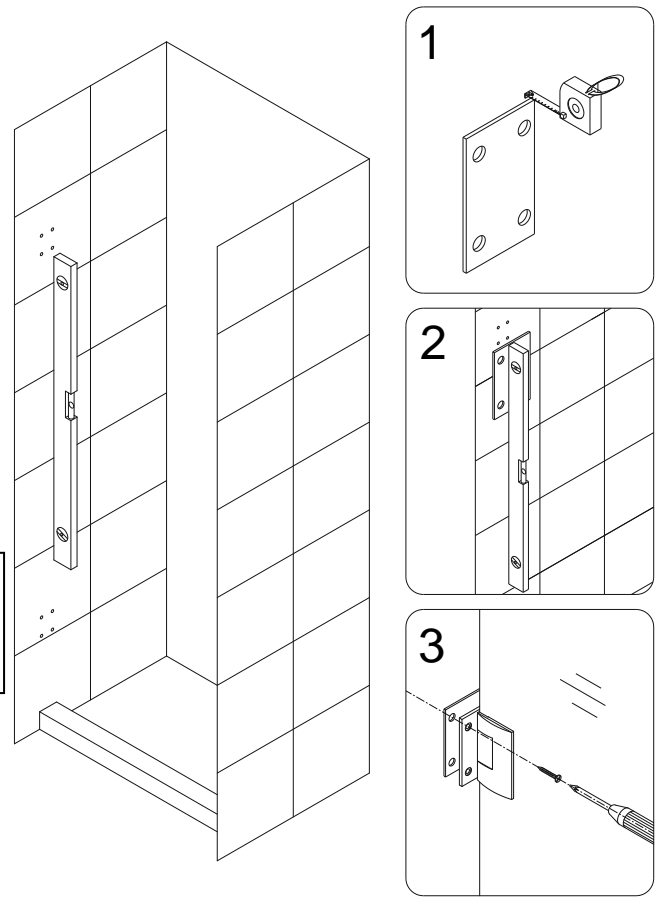

Fig. 4
3. Hold the door in place and mark the drill holes for both **Hinges (05)** on the wall. Set the door aside and use a  $\text{Ø } 1/4\text{''}$  drill bit to drill holes up to the stud. Drill 1/8" pilot holes into the stud if necessary.
**The included PVC hinge spacers (31) are provided to compensate for minor out-of-plumb wall conditions. Use only as necessary as their use could compromise the opening size of your shower. Please see Fig 4 for an installation example\*.**
4. Place the **Door Glass (01)** back onto the threshold along with the 5/8" spacers and attach both hinges to the wall with two **Countersunk screws ST5×70 (04)** on the hinge from outside of the shower. Then open the door and install the remaining screws to both wall plates from the inside.
**(Fig 3 and Fig 4)**